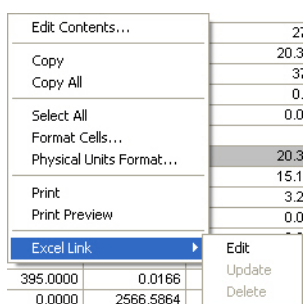

Figure 14.4: Customizing the Excel Link to a grid starts with accessing the grid's command menu.
2. Once the grid is in display, select **Excel Link ► Edit** from the interface's command (context) menu, see Figure 14.4 (actual contents of the menu depend on the interface and may be slightly different than what shown in Figure 14.4). The command menu will be presented when you right-click over the grid.